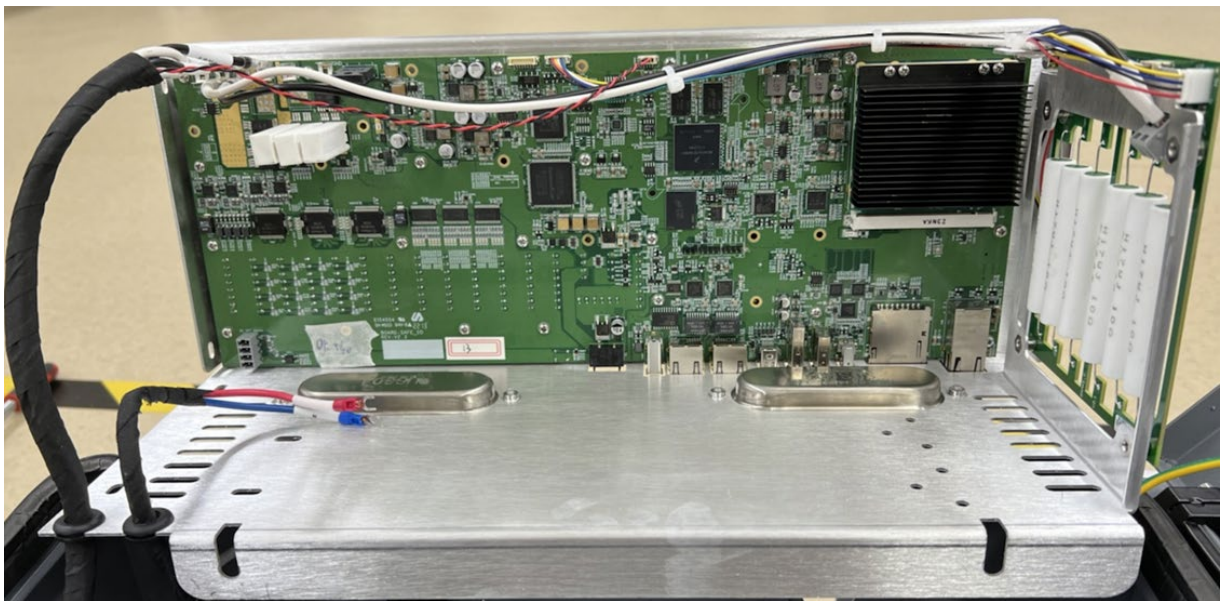

Figure 3-27 Screw position and power placement
- As Figure 3-27, remove the 6 hex round-headed screws for holding the power supply. Then take the power supply out and place it somewhere safe;